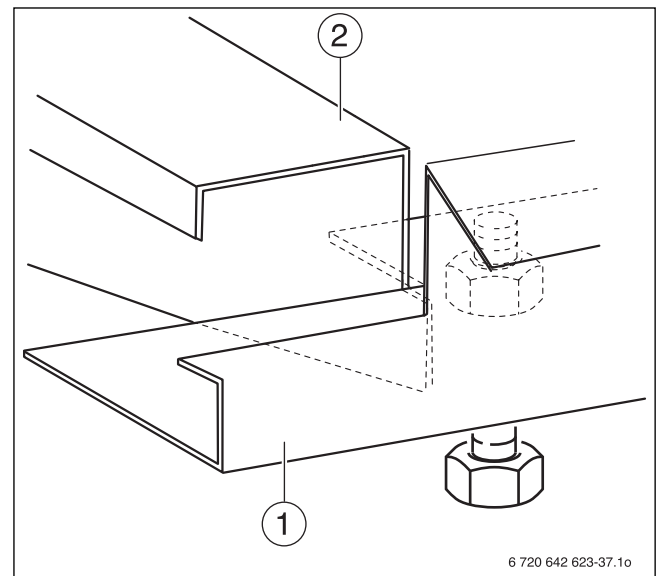

Fig. 39 Place longitudinal rail on crosswise profile rail
- ▶ Place longitudinal rail (→ Fig. 39, [1]) with the notch at the front on the notch of the crosswise profile rail (→ Fig. 39, [2]).